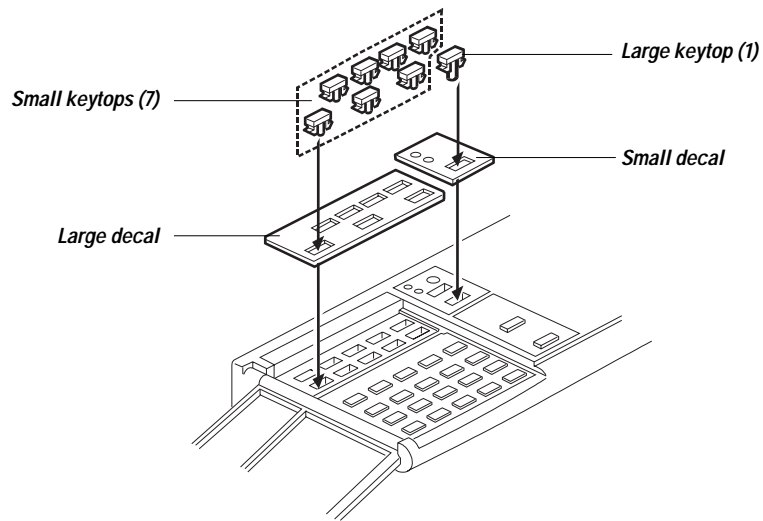

Figure 2-24 Installing Operation Panel keytops
4. **Peel the adhesive backing off the large and small decals and place them over the areas indicated in Figure 2-24.**